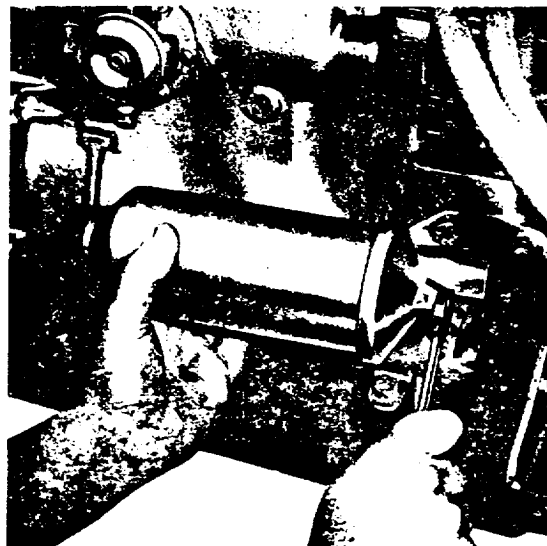

Fig. L.13.
2. Unscrew the filter bowl securing bolt as shown in Fig. L.13. A suitable container should be placed beneath the filter to catch the oil in the bowl as the securing bolt is slackened.